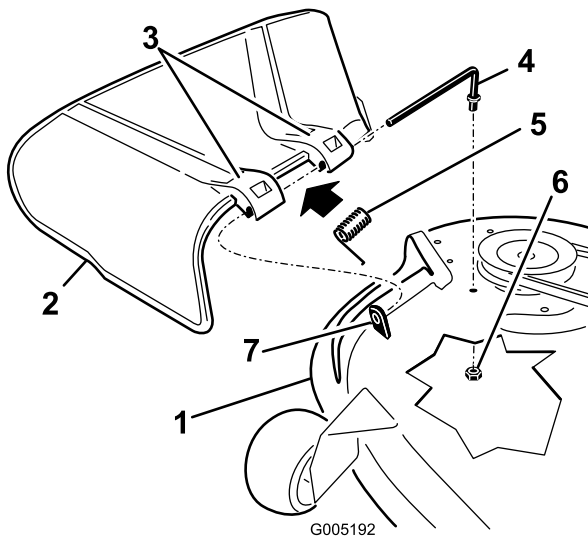

Figure 47
- Locate items shown in Figure 47.
- Remove the nut (3/8 inch) from the rod under the mower (Figure 47).
- Slide the rod out of the short stand-off, internal lock washer, spring, and grass deflector (Figure 47). Remove the damaged or worn grass deflector.
- Replace the grass deflector and internal lock washer (Figure 47).
- Place the spring on the rod, with end wires down, and between the grass deflector brackets. Slide rod through second grass deflector bracket and internal lock washer (Figure 47).
- Insert rod at front of grass deflector into short stand-off on deck. Secure rear end of rod into the mower with a nut (3/8 inch) (Figure 47).